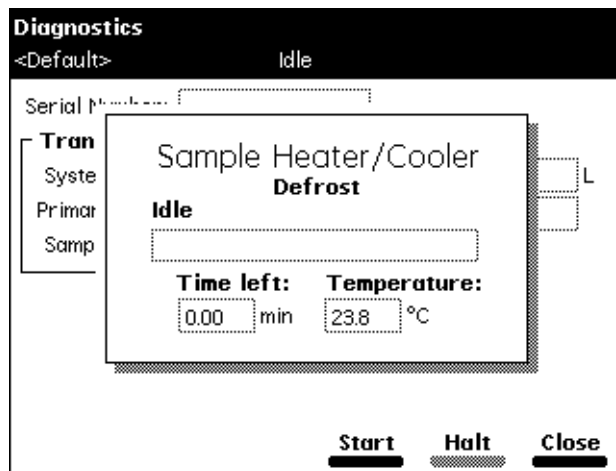

Figure 8-20 Defrost Sample Heater/Cooler Screen
1. Select **Defrost** in the Other Diagnostics screen, then press **OK**. The Defrost Sample Heater/Cooler screen appears (Figure 8-20).